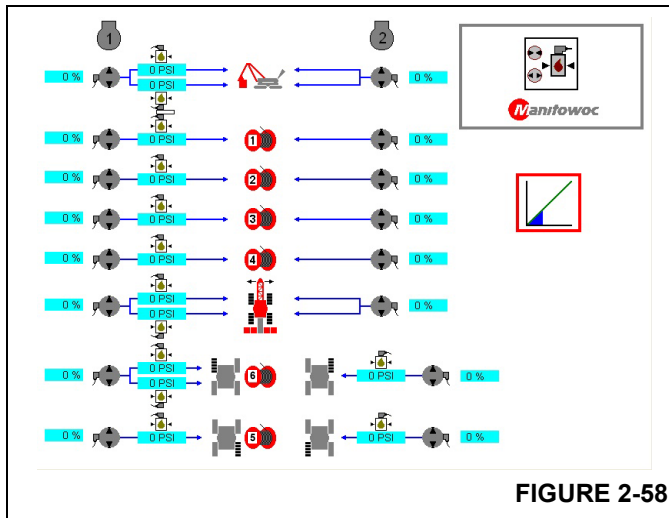

FIGURE 2-58
8. Then press  or  until the Charge Pressure Test icon appears as shown (Figure 2-58).